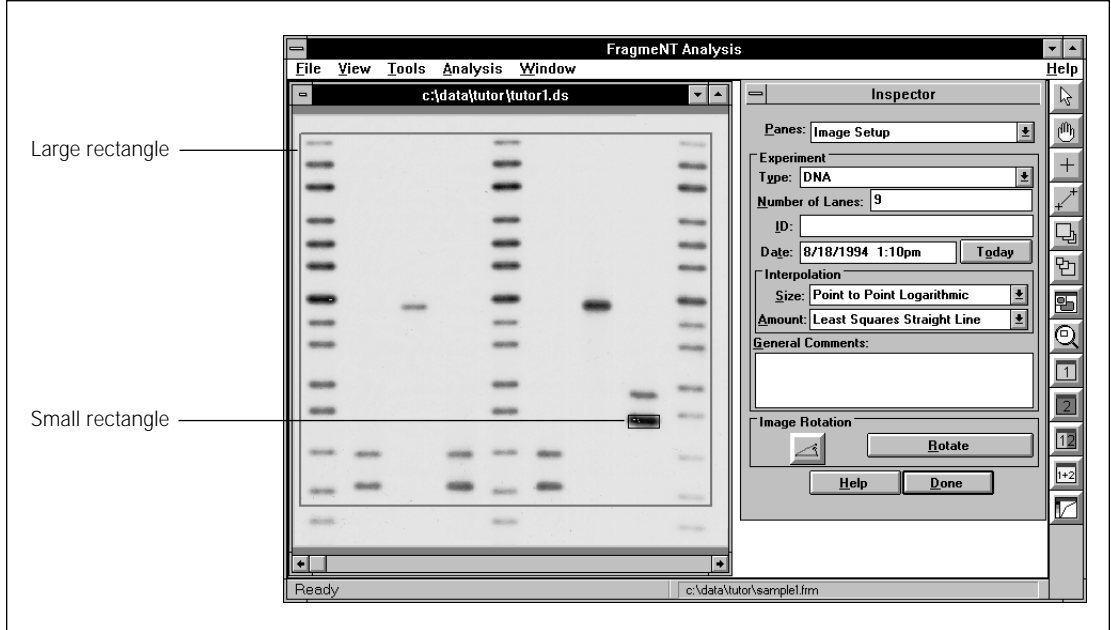

Figure 3-7. Adjusting the region of interest and band prototype rectangles.
The two rectangles on the image serve the following purposes (figure 3-7):
1. Place the pointer inside the **small rectangle** and drag the rectangle to enclose the largest band (figure 3-7).
Pull the lower edge up to exclude the bottom row of bands from the region of interest (figure 3-7).